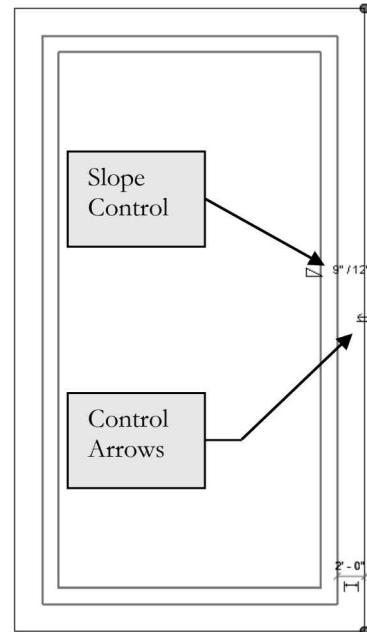

FIGURE 8-1.8 Selected walls
32. Select the remaining three walls (Figure 8-1.8).
FYI: You can also change the slope of the roof by changing the *Slope Control* text (see Figure 8-1.8); just select the text and type a new number.